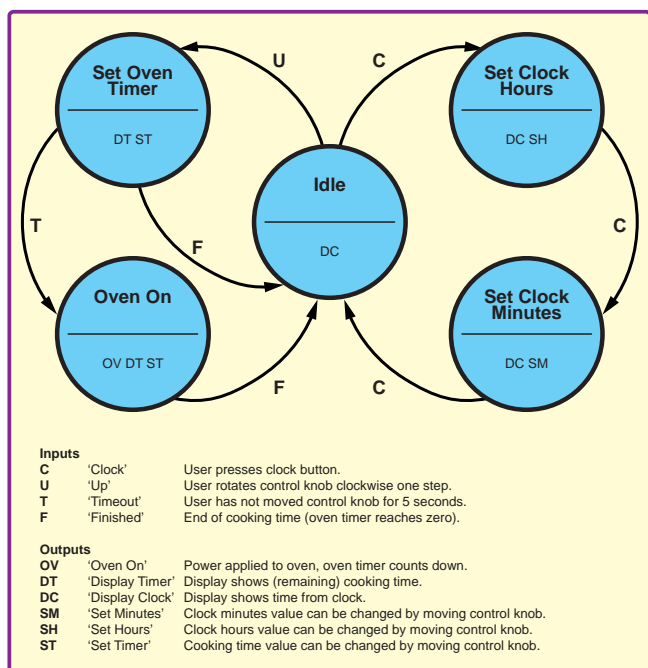

Fig.2. Example of a state machine based on a simplified microwave oven user interface
As previously mentioned, many everyday systems can be described using state machines. An example of such a state diagram is shown in Fig.2. This represents the behaviour of a microwave oven; it is simplified a little in comparison to the real microwave on which it was based to make our
We can start to describe the behaviour of the microwave oven's controlling state machine by defining an ‘Idle’ state, which it is in when the oven is not being used. In this state the action it performs is to display the time of day. We can call this action/output ‘Display Clock’, abbreviated to DC on Fig.2. We can assume that the system contains a real-time clock and a timer to control the cooking time and has some means to select which of these outputs to the display at any given time. We have defined another output/action called display time’ (DT) which selects the timer for display.
This representation (Fig.2) is abstract and may need to be refined if we actually implemented the system. For example, in digital circuit implementation we might use a single bit with 0 and 1 selecting the clock or timer. In which case it might be better to define a single state machine output called ‘Display Select’ (DS) and write DS=0 or DS=1 as the output on the state diagram, as appropriate. Alternatively, if we were coding the state machine in software we might define an enumeration data type that could have two values: DT and DC, in which case Fig. 2 would be more directly representative.
If the user presses the clock button when the machine is in the idle state then the hours value of the clock can be changed. This represents a transition to a new state – the condition is ‘clock button pressed’ which abbreviate to C. In Fig.2 there is an arrow from the Idle state to the ‘Set Clock Hours’ state, which is labelled C to show that this is the condition for the transition.